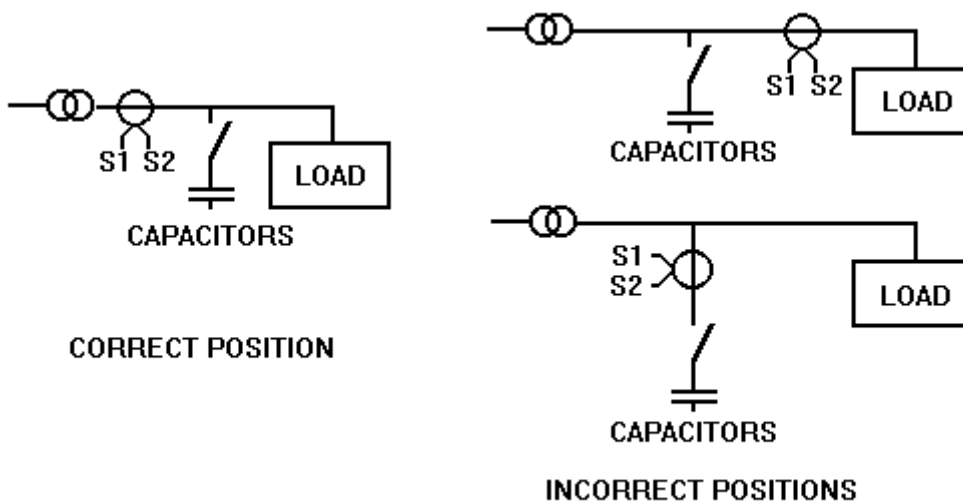

FIGURE 1.- Position of the current transformer
- Only the current transformer needs to be connected to the control system. **The current transformer must be always placed at phase L1, measuring the total current of load + capacitors.** (The figure 1 shows the correct placement of the transformer)